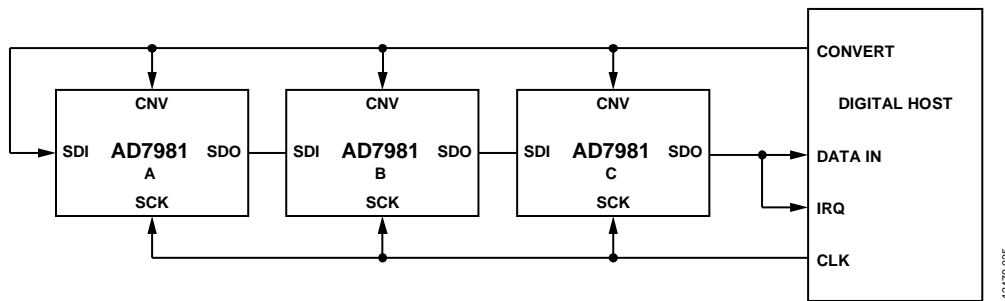
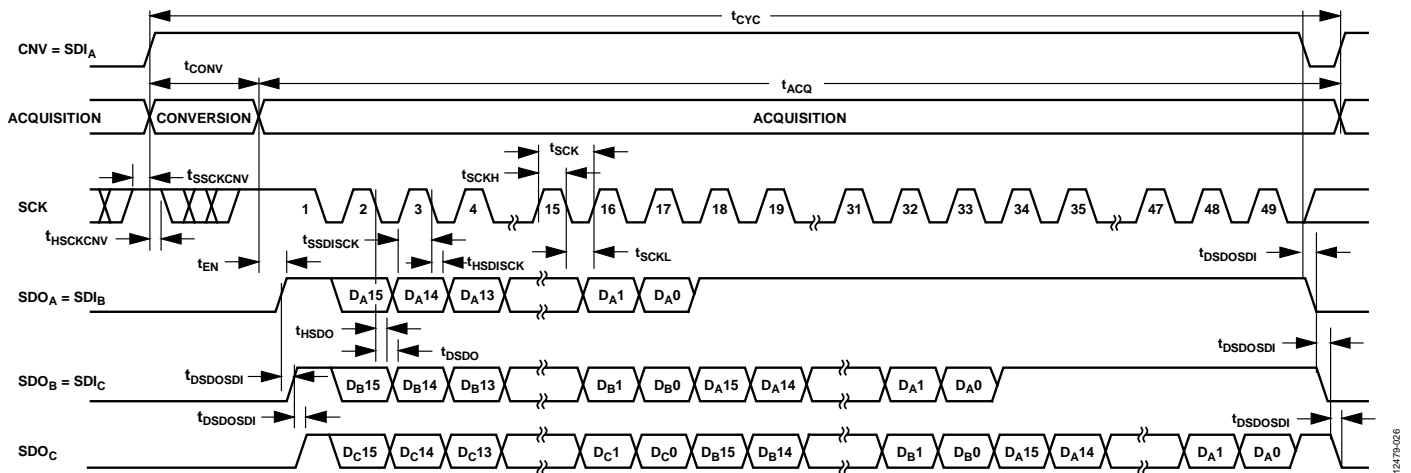

Figure 40. Chain Mode with Busy Indicator Connection Diagram
Figure 41. Chain Mode with Busy Indicator Serial Interface Timing
- In chain mode if SCK is high during the CNV rising edge (see Figure 41).
A connection diagram example using three AD7981 devices is shown in Figure 40, and the corresponding timing is given in Figure 41.
data readback. When all ADCs in the chain have completed their conversions, the SDO pin of the ADC closest to the digital host (see the AD7981 ADC labeled C in Figure 40) is driven high. This transition on SDO can be used as a busy indicator to trigger the data readback controlled by the digital host. The AD7981 then enters the acquisition phase and powers down. The data bits stored in the internal shift register are clocked out, MSB first, by subsequent SCK falling edges. For each ADC, SDI feeds the input of the internal shift register and is clocked by the SCK falling edge. Each ADC in the chain outputs its data MSB first, and $16 \times N + 1$ clocks are required to read back the N ADCs. Although the rising edge can be used to capture the data, a digital host using the SCK falling edge allows a faster reading rate and, consequently, more AD7981 devices in the chain, provided the digital host has an acceptable hold time.